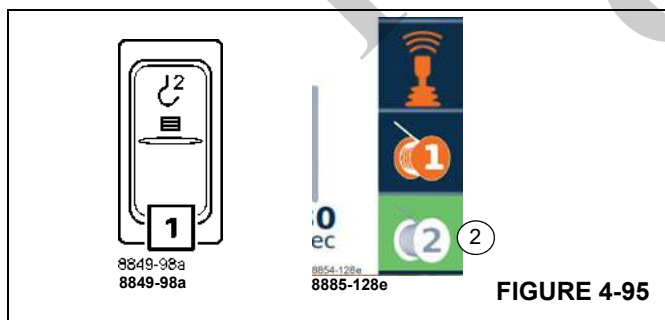

FIGURE 4-95
Press the button on the right armrest (1), (Figure 4-95) once. Symbol (2) is green when the auxiliary hoist is switched on.